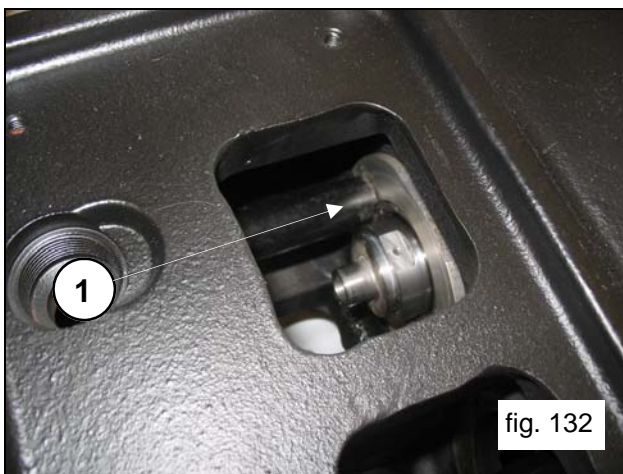

fig. 132
Perfectly insert the cover into its seat (pos. ①, fig.132) being careful not to damage the oil seal lip. Fasten the oil seal cover with 2 M6x14 screws (pos. ①, fig.133).